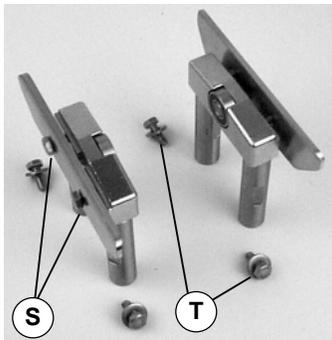

Figure 10
2. Loosen screws (S of Figure 10) and remove screws and washers (T).